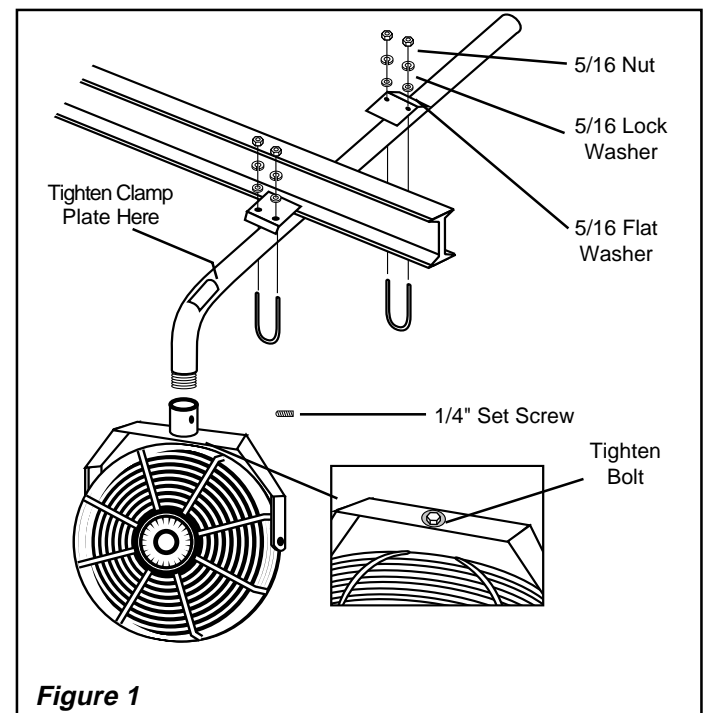

Figure 1
1. Locate the L-shaped pipe to the desired location on the I-Beam flange. Install the 5/16 x 2" U-Bolt over the pipe and through the clamping plate holes. The flat part of the clamping plates fits on the I-Beam flange and the end with the slight bend goes against the pipe. Install flat washers, lock washers and nuts. Finger tighten the nuts on the U-Bolt. (**Figure 1**)